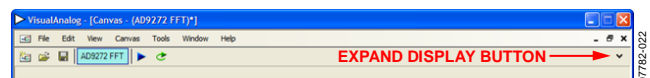

Figure 5. VisualAnalog Window Toolbar, Collapsed Display
3. To view different channels or change features to settings other than the default settings, click the **Expand Display** button. This is located on the bottom right corner of the window, as shown in Figure 5.